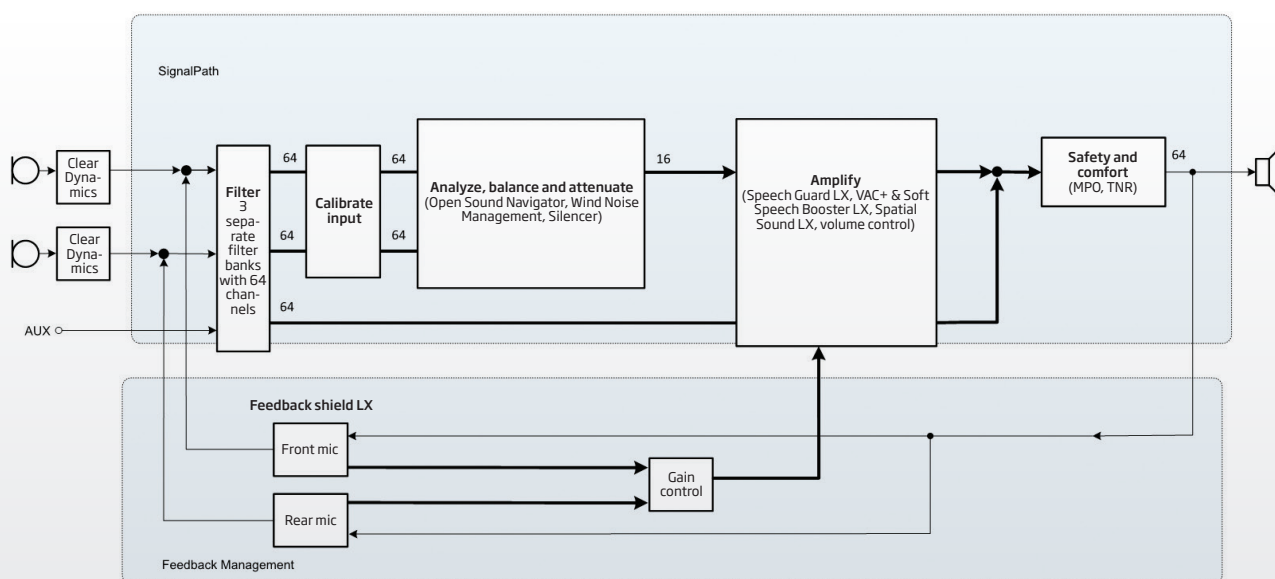

Figure 3: The platform architecture of Velox
The signal enters through two microphones on the instrument, through the Telecoil (TC), via the Direct Audio Input (DAI), or through a wireless (WL) connection to the instrument (Figure 3). Here the input adaptive gain control in Clear Dynamics adjusts gain to prepare the signal for the A/D-converter, and re-applies any gain reductions after the A/D-converter to ensure that a larger dynamic range is available for further processing. Thus, the full sound input range from 5 to 113 dB SPL comes into the instrument for processing without any initial, unnecessary compression.